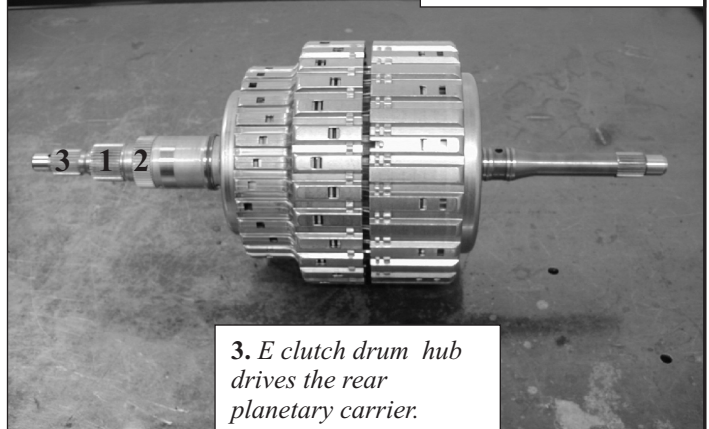

Figure 6
*The double planetary (output) carrier* is located in the back of the transmission where its' internal ring gear drives the output shaft (Figure 6). The rear sun gear (#3) in this double planetary assembly is driven by the A clutch and meshes with three short pinions. The front sun gear (#2) which meshes with three long pinions in this double planetary assembly is driven by the B clutch (Figure 7) while the C clutch is used to hold the #2 sun gear stationary.